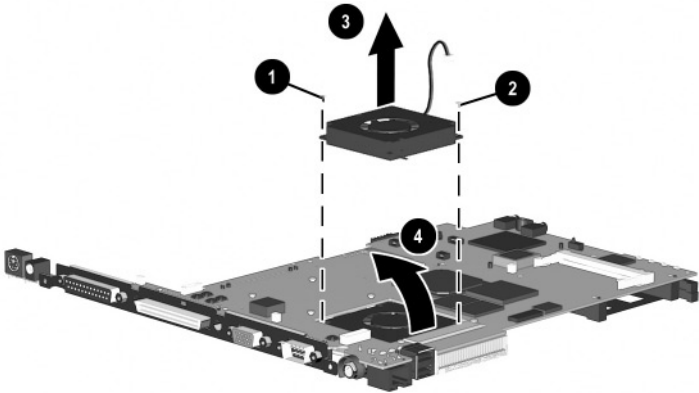

Figure 5-29. Removing the Fan on an Evo Notebook N600c
5. Remove the PM2.0 × 4.0 screw **1** and PM2.5 × 5.0 screw **2** that secure the fan to the system board (Figure 5-29).